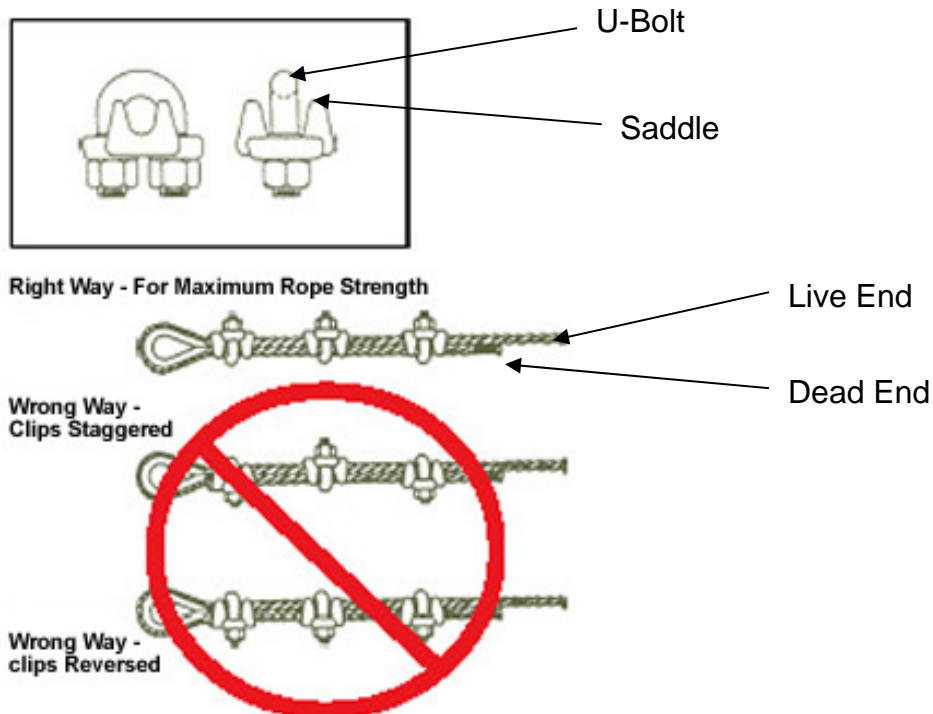

Figure 5
Attach the one 5/16" tower guy wire without an eye at either end to the eye of the turnbuckle that is farthest away from the center foundation. Use a 1/2" open thimble. After placing this and all other thimbles, squeeze it closed before installing the wire and saddle clamps. Secure with three 5/16" saddle clamps. Refer to saddle clamp installation procedure in Figure 5, and make the dead end 30 inches long.
Attach the remaining 3/16" guy wires that are not attached to the tower couplers to the remaining turnbuckle eyes using 5/16" open thimbles. Secure with three 3/16" saddle clamps per guy wire. Install the shortest closest to the tower base and then work outward with successively longer wires. See Appendix Drawing D1 and D6. Refer to the saddle clap installation procedure in Figure 5, and make the dead end 30 inches long.
1. Locate the first saddle clamp as close to the thimble as possible with the U-bolt over dead end, the live end rests in clip saddle. See Figure 5.
Attach the guy wires between the first coupler on the Tower Base Section and the Left, Right and Down Side foundations. Use a 5/16" open thimble through the eye of the turnbuckle. After placing this and all other thimbles, squeeze it closed before installing the wire and saddle clamps. Pull the guy wires tight and then slack off about 6 inches and secure with three 3/16" saddle clamps. Refer to the saddle clamp installation procedure in Figure 5. The guy wires will be readjusted later during the tuning process, so do not over tighten the cable clamps and damage the wire. Adjust all the guy wires so that the tower section is plumb.
Attach the gin pole guy wires to their anchors at the left and right side foundations. Use 5/16" open thimbles and three 3/16" saddle clamps at each location. Refer to the saddle clamp installation procedure in Figure 5. Use a level to get the gin pole plumb with the tension adjusted so there is about 4 inches of sag in each wire.
Guy Wire Attachment-Attach the guy wires that are attached to the lowest tower coupler to the lowest free turnbuckles, at the Left and Right side foundations. Use a 5/16" open thimble through the eye of the turnbuckle. After placing this and all other thimbles, squeeze it closed before installing the wire and saddle clamps. Pull the side guy wires tight and then slack off about 6 inches and secure with three 3/16" saddle clamps. Refer to the saddle clamp installation procedure in Figure 5. The guy wires will be readjusted later during the tuning process, so do not over tighten the cable clamps and damage the wire.
With the first two tower sections level, attach the second 3/16" guy wire between the gin pole end fitting and the open hole in the second coupler guy wire attachment ring. Use a 5/16" thimble and three 3/16" saddle clamps. Pull the guy wire tight. Don't worry about the excess wire at this time; you can trim the tails after the tower has been adjusted. Refer to the saddle clamp installation procedure in Figure 5. It will be easier to tighten the saddle clamps if the guy wire is led through the coupler from above and fed back on the side nearest the tower base (see figure 7).